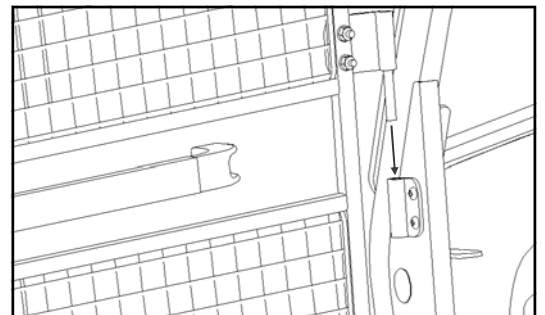

Figure 8.1: Door hinge pins into frame
- 8.1 Holding the door perpendicular to the vehicle, lower the door hinge pins into the hinge sleeves on the frame. (**Figure 8.1**).